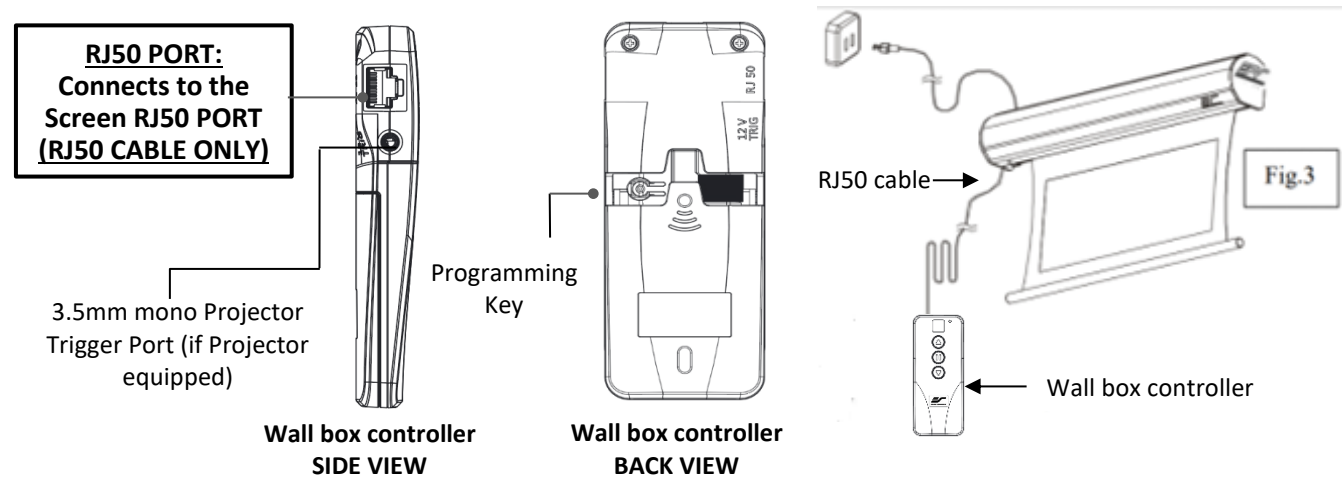

Fig.3
2. Wall box controller (Item C, Fig.3): The wall box controller switch is a wall mounted control box with an up/stop/down button. It plugs directly into the screen’s RJ50 port.